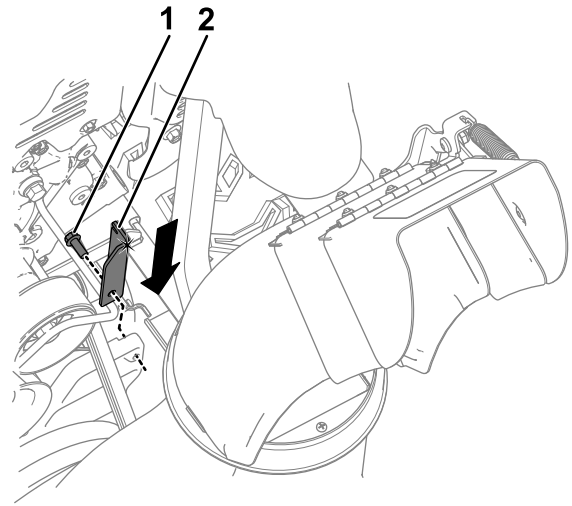

Figure 4
5. Install the new traction plate on the friction wheel plate using the previously removed bolt (Figure 4).